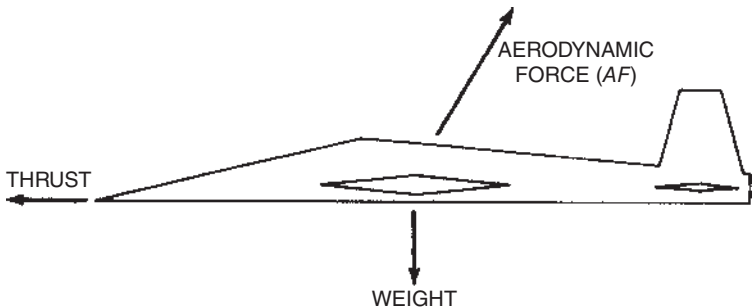
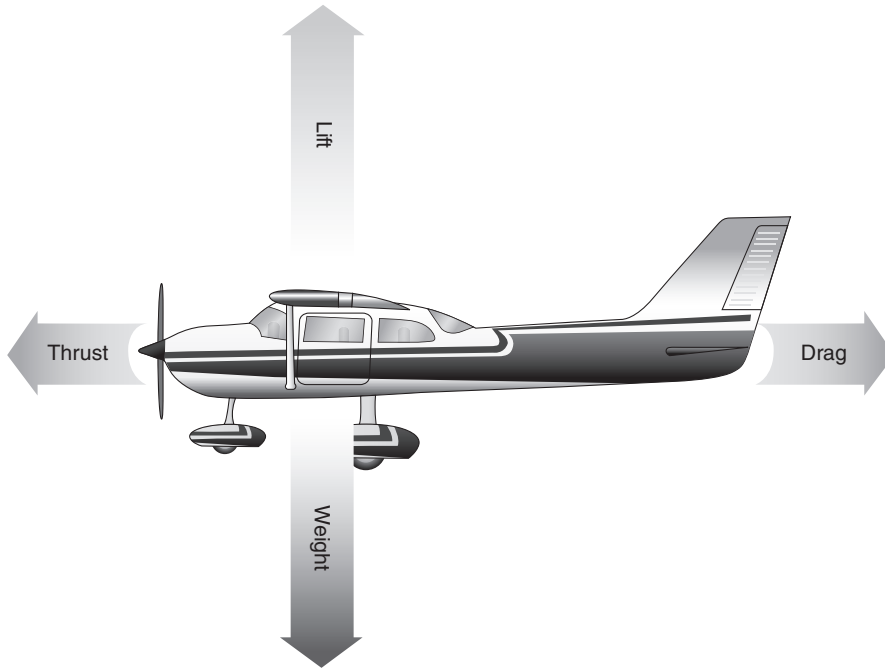

Fig. 1.1. Forces on an airplane in steady flight.
Fig. 1.2. Resolved forces on an airplane in steady flight.
A force is a push or a pull tending to change the state of motion of a body. Typical forces acting on an aircraft in steady flight are shown in Fig. 1.1. Figure 1.2 shows the resolution of the aerodynamic forces during
1. There must be no unbalanced forces acting on the body. This is written as the mathematical formula $\Sigma F = 0$, where Σ (cap sigma) is the Greek symbol for “sum of.” Figures 1.1 and 1.2 illustrate situations where this condition is satisfied (lift = weight, thrust = drag, etc.)